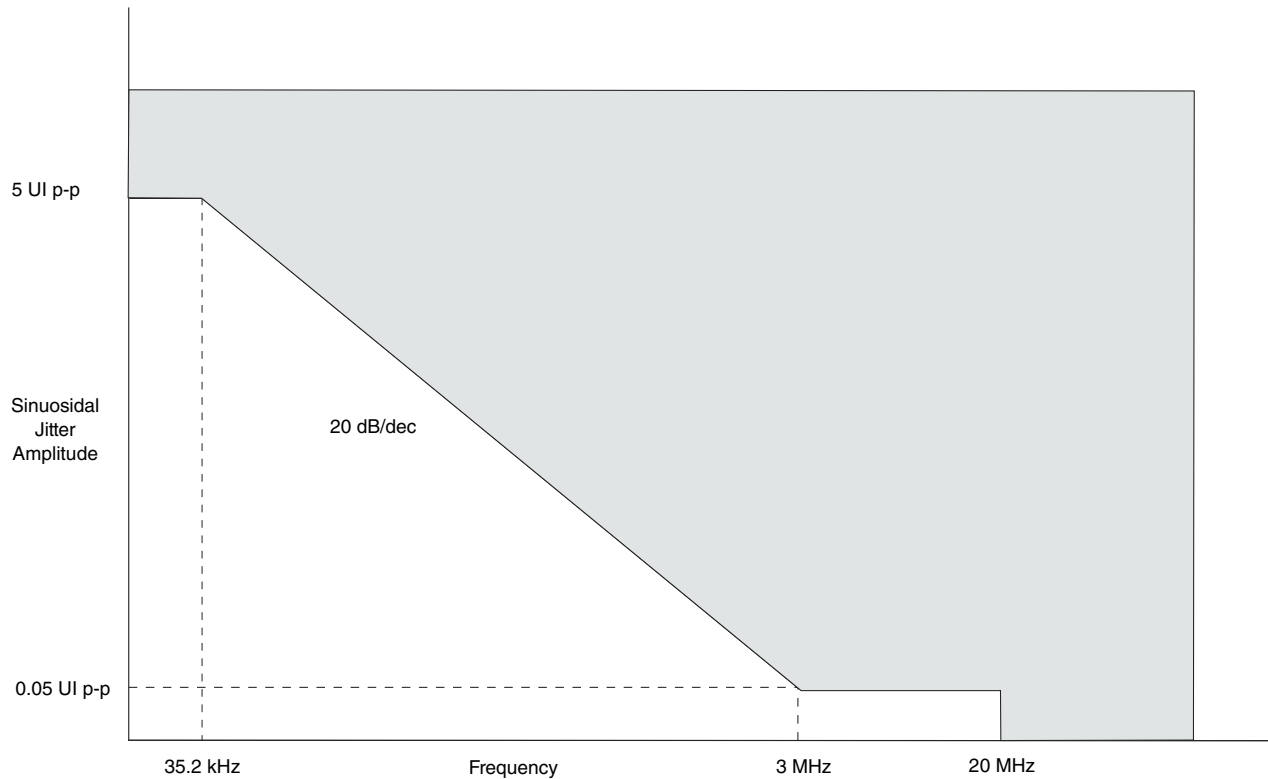

Figure 43. Single-frequency sinusoidal jitter limits
3. Total jitter is composed of three components: deterministic jitter, random jitter, and single frequency sinusoidal jitter. The sinusoidal jitter may have any amplitude and frequency in the unshaded region of Figure 43. The sinusoidal jitter component is included to ensure margin for low frequency jitter, wander, noise, crosstalk, and other variable system effects.